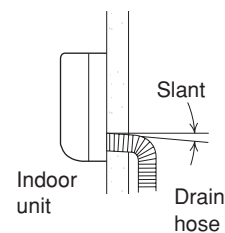

Fig. 43
- The drain hose should be slanted downward to the outdoors. (Fig. 43)